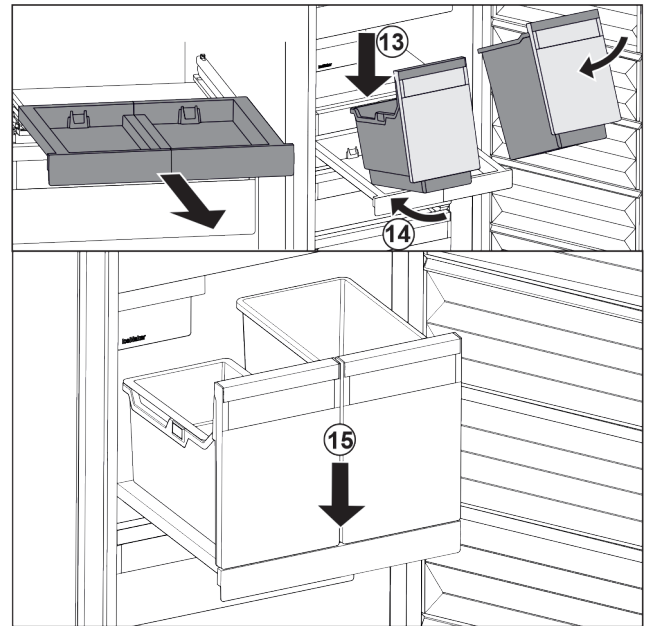

Fig. 144
- ▶ Place the container at an angle on the pull-out board. *Fig. 144 (13)*
- ▶ Slide the container to the back at an angle. *Fig. 144 (14)*
- ▶ Place container in the front. *Fig. 144 (15)*